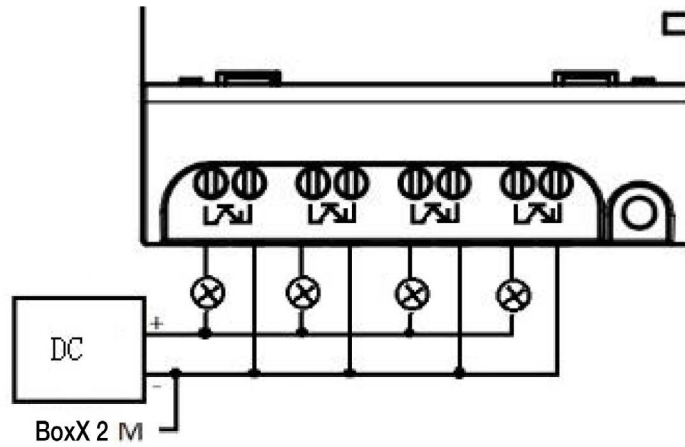

Figure 2.10 Transistor Output (D type)
1) Type D connection is shown in Figure 2.10: